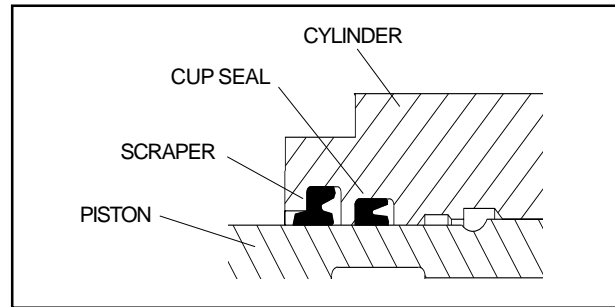

Figure 1.
1. Apply grease and install a new cup seal (28) into the cylinder with the lips of the seal facing toward the handle end of the cylinder. See figure 1.
2. Apply grease and install a new scraper (27) into the cylinder with the lips of the seal facing toward the handle end of the cylinder. See figure 1.